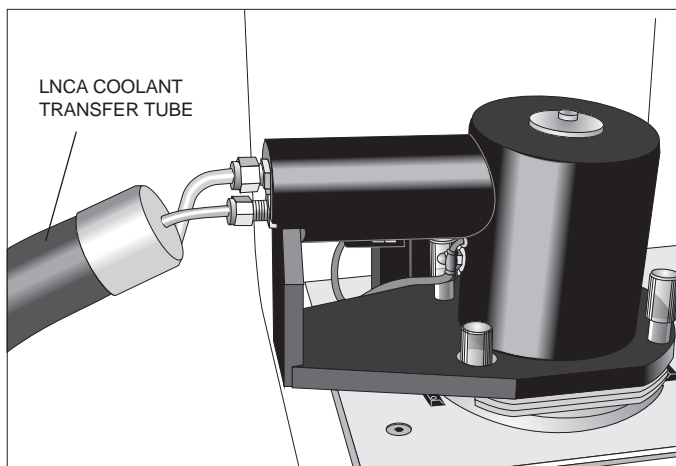

Figure 2.17
2. Connect the LNCA coolant transfer tube from the LNCA feed valve to the stainless-steel union on the block housing (Figure 2.17).